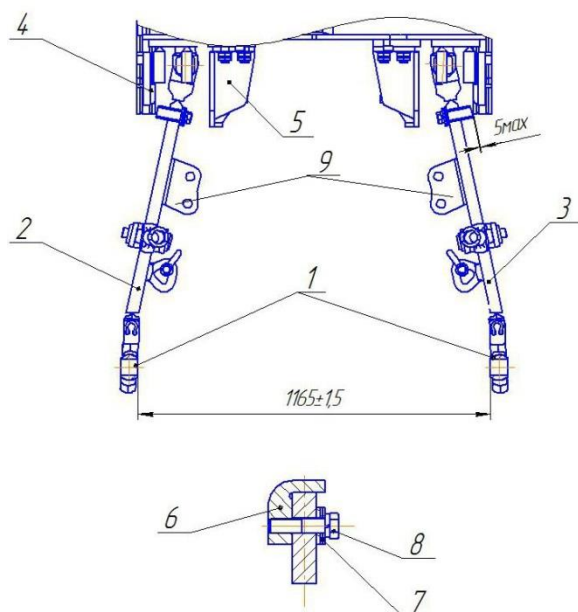

Fig. 27 Adjustment of lower linkage rods
Lower linkage rods (Fig.27) shall be adjusted as follows:
– lift the linkage, providing for the distance of 1180...1280 mm from the supporting surface to the lower rods; in doing so, the rods 2 and 3 shall be located between outer stop 4 and internal stop 5 (Fig. 27). Stops 744R3-46 28021-1, pos.6, shall be installed at the side of outer stops.